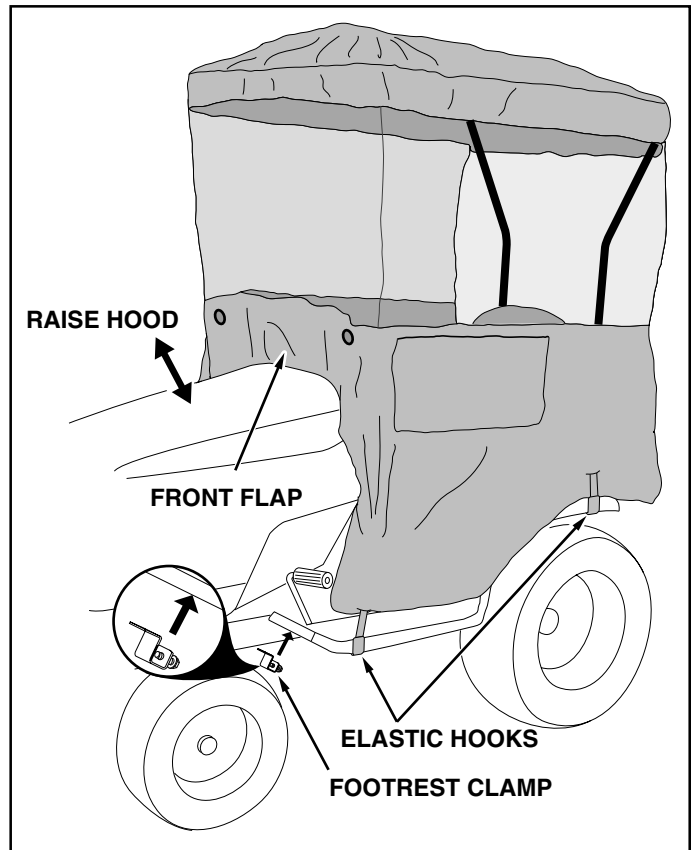

FIGURE 8
15. Install a footrest clamp with preassembled bolt onto the front edge of each footrest, with the bolt underneath the footrest. See figure 8.
16. Raise the tractor's hood. Place the snow cab canopy onto the tubing frame, draping the front flap down in front of the tractor's dash panel. Lower the hood, trapping the front flap under the hood. Secure the sides of the canopy by fastening the elastic hooks to the bottom edge of the footrest and fender. Levers or handles on snowthrowers and snow blades should be located outside of the cab. See figure 8.